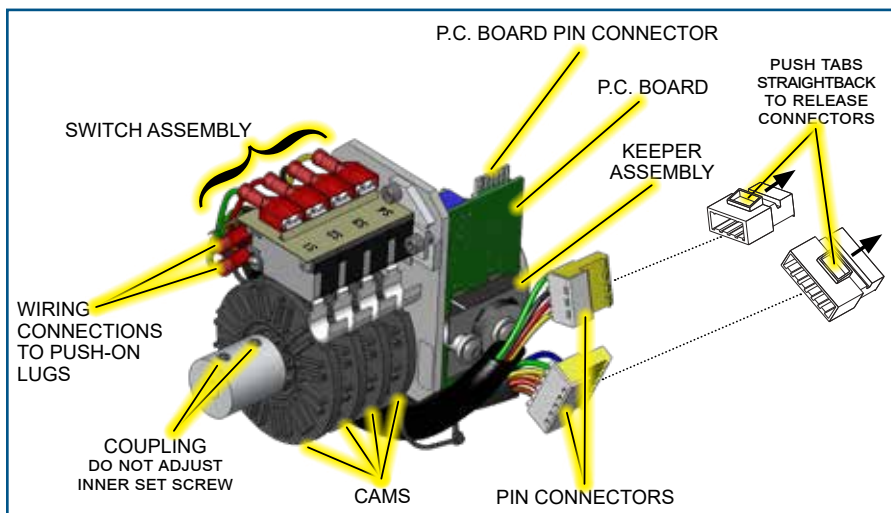

Figure 1
Refer to Figure 1 for component identification.
4. Disconnect the control end assembly electrical circuits by unplugging the three multi-pin connectors from the actuator. Two connectors lead from the switch subassembly and the other connector leads from the P.C. board. To disconnect the switch subassembly connectors, use a 3/16" flat-tipped screwdriver to press the release tab straight back (see Fig. 1) and pull the plug out of its socket. The connector leading from the P.C. board slides off with modest force.